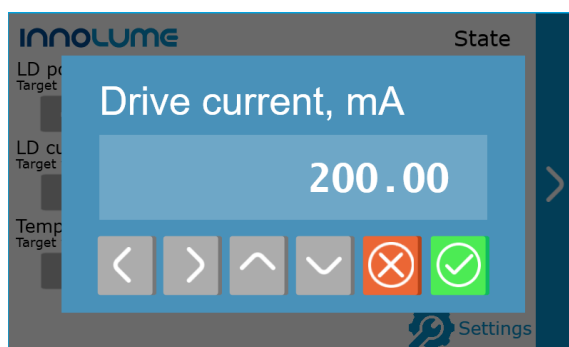

Figure 6 – Driver current setting
10. Tap on LD current value to set the laser diode current (fig. 6). Use the left and right arrows to select the digit to change, use the up and down arrows to change the value. Press  button to save the changes and exit menu. Press  button to exit menu without changes.